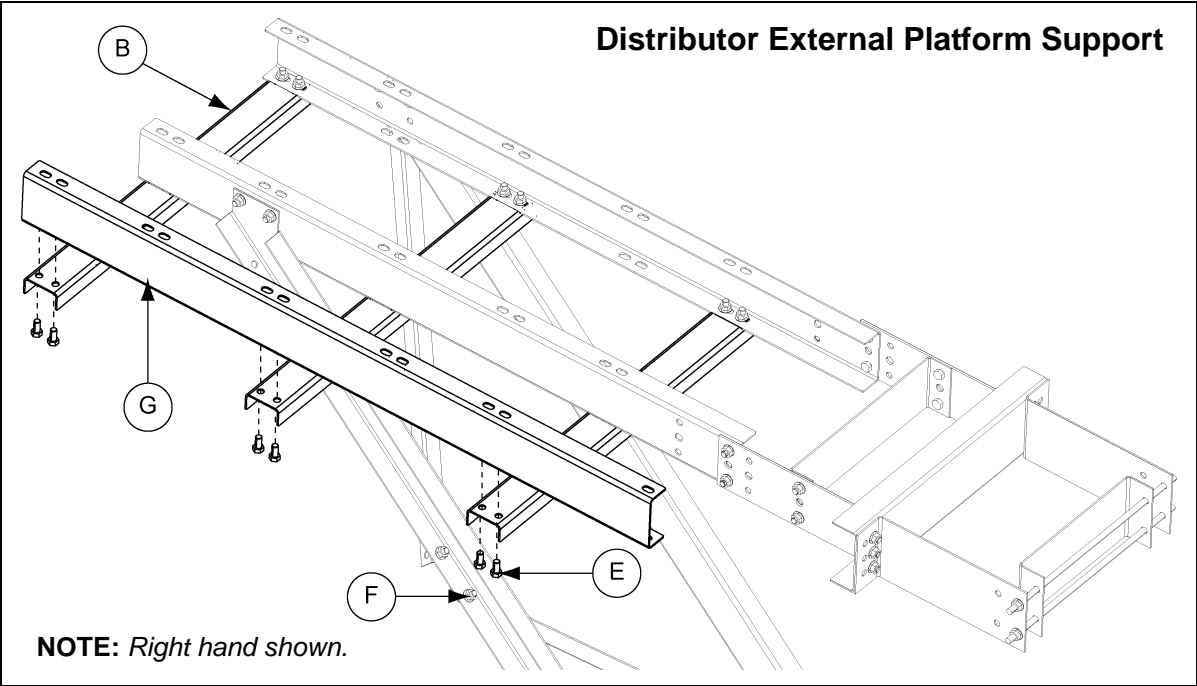

Figure 10F Distributor External Platform Support
3. Assemble the external platform support (DSP1648EPS) to the end of the three (3) cross supports using six (6) 1/2" x 1" bolts and nuts. *(See Figure 10F on Page 80.)*